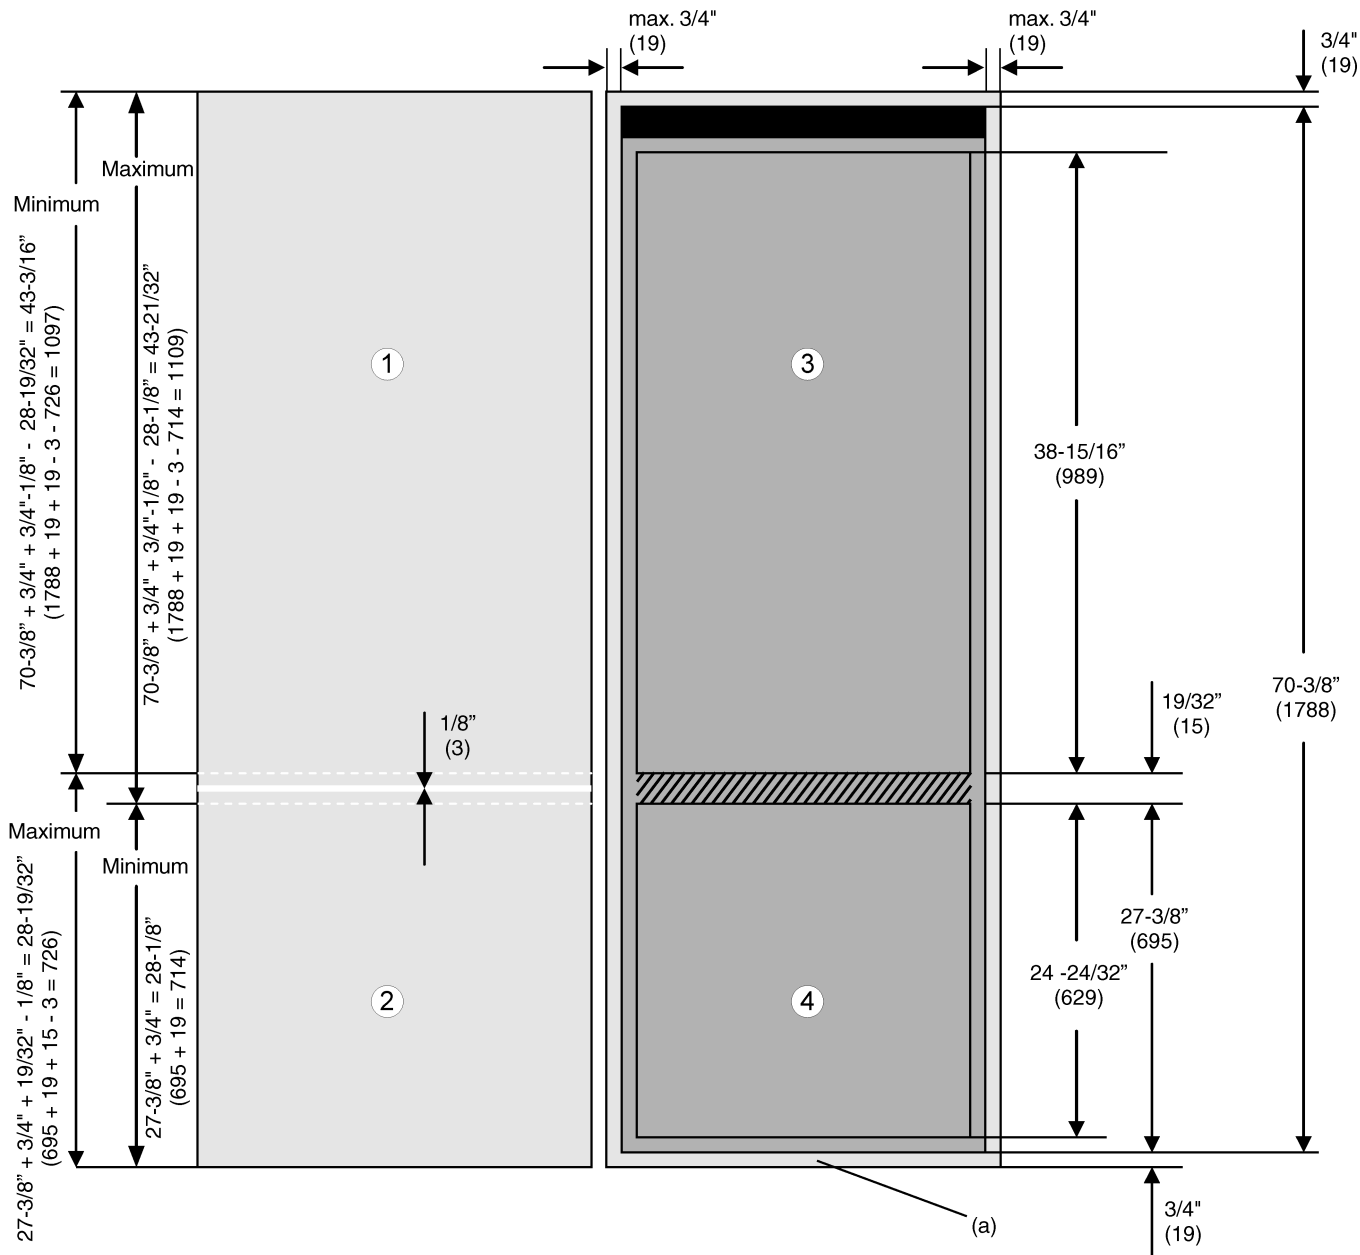

Fig. 6
► To cover the face side of the floor board Fig. 6 (a): increase the height of the panel to 27-3/8 in. + 3/4 in. = 28-1/8 in. (695 mm + 19 mm = 714 mm).
Without door panels on the unit, there is a gap of freezer Fig. 6 (4) between the refrigerator door Fig. 6 (3) 19/32 in. (15 mm). After the installation of the cabinet doors, the gap between the two doors Fig. 6 (1,2) will only be around 1/8 in. (3 mm) and must be in the hatched area.